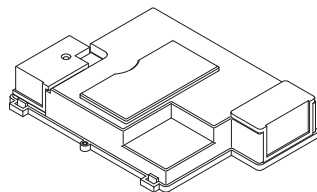

Fig. 7
2. Undo the screws securing the cover and release the cover retaining barbs from their slots. Disengage the rear of the cover from the facia hinge pin and lift the cover away (Fig. 7).